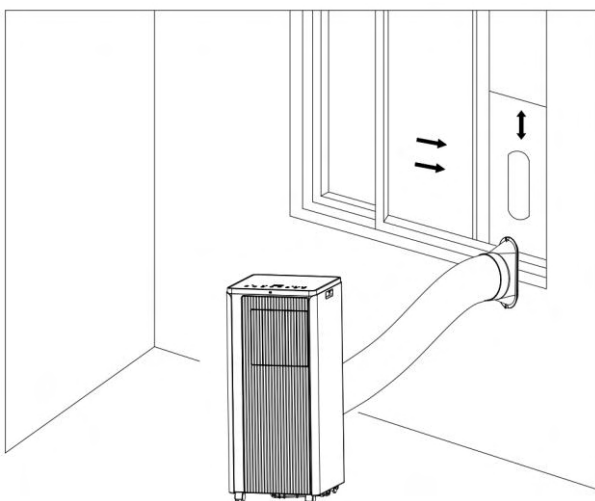
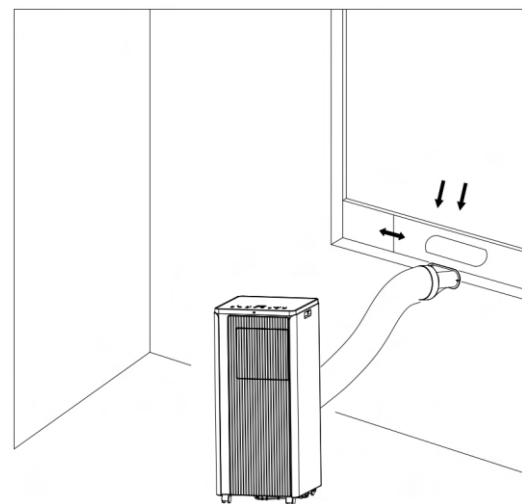

Figure 5
Figure 6
- 3) Elongate the exhaust pipe and snap the flat end of the exhaust pipe joints into the hole of the window sealing plate assembly (as shown in Fig.5 and Fig.6).